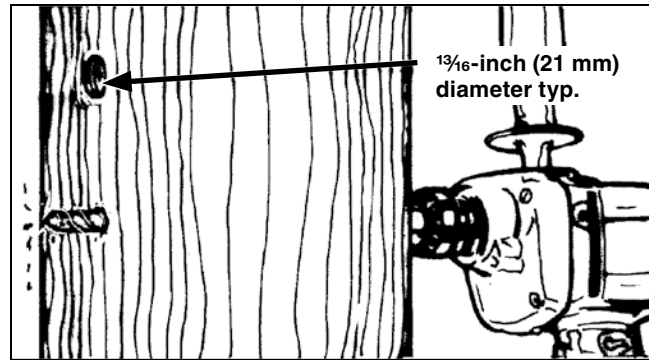

Figure 2. Drill holes for switch-mounting bracket.
STEP 1. Drill two $\frac{13}{16}$ -inch (21-mm) diameter holes through the utility pole for attachment of the pole-top switch-mounting bracket. See Figure 2. Refer to the erection drawing.